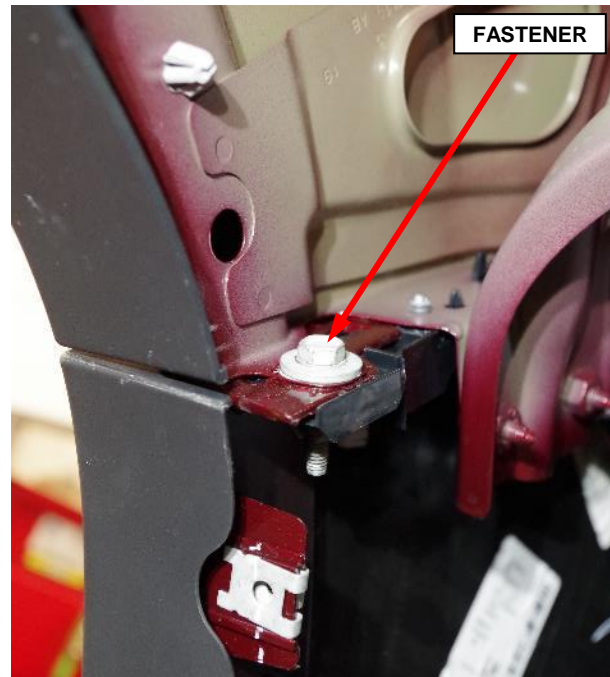

Figure 14 – Fascia to Fender Fastener
18. Remove the fastener on the inside of the wheel opening that attaches the side of the front fascia to the fender on both sides of the vehicle (Figure 14).